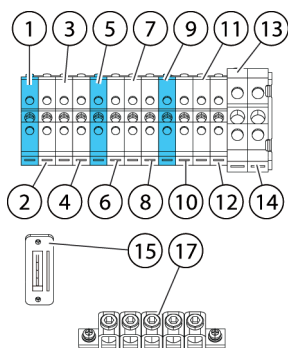
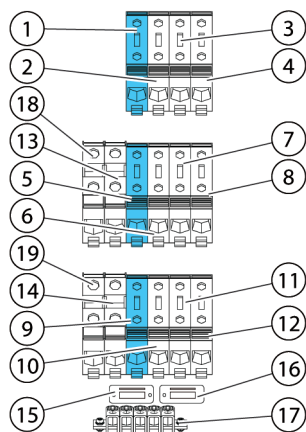

Figure 10. Power cable terminals in the 93PS 20 kW frame
Figure 11. Power cable terminals in the 93PS 40 kW frame
For the external separate battery option, there are separate terminals for both battery banks (cabinets). These terminals replace terminals 5 and 10 shown in Figure 11.
4. Connect the cables to the respective terminal blocks, see Figure 10 and Figure 11.